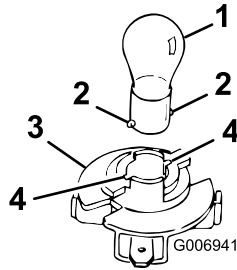

Figure 42
3. Rotate the bulb holder 1/4 turn clockwise and remove it from the reflector (Figure 42).
4. Insert and rotate the bulb counterclockwise until it stops (approx. 1/4 turn), and remove the bulb from the bulb holder (Figure 42).
2. Insert the base into the holder (Figure 42).